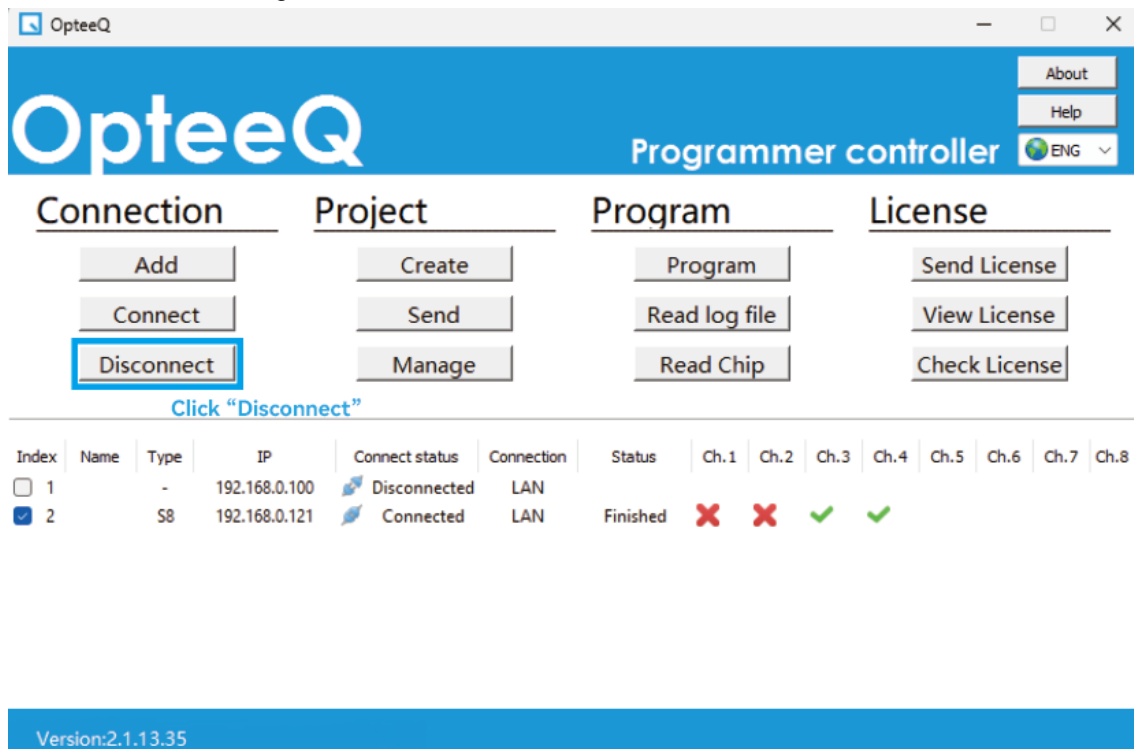

Figure 4.21 Programmer Disconnection
7) If the programmer is not used any more after successful programming, please click "Disconnect Programmer", as shown in Figure 4.21.